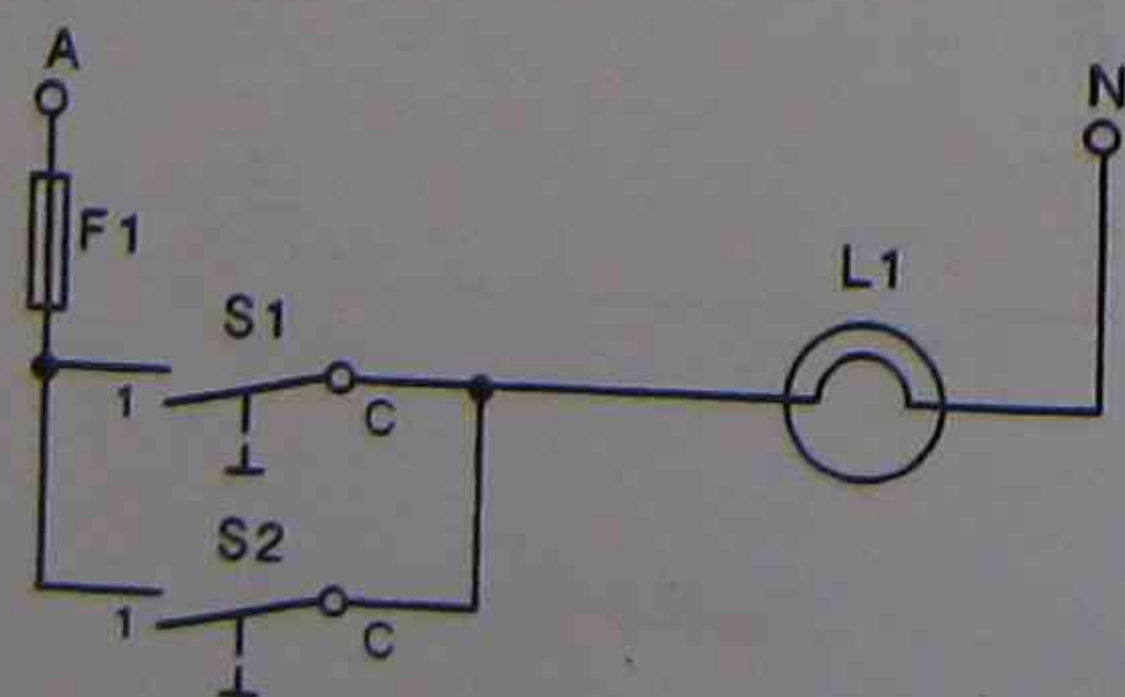
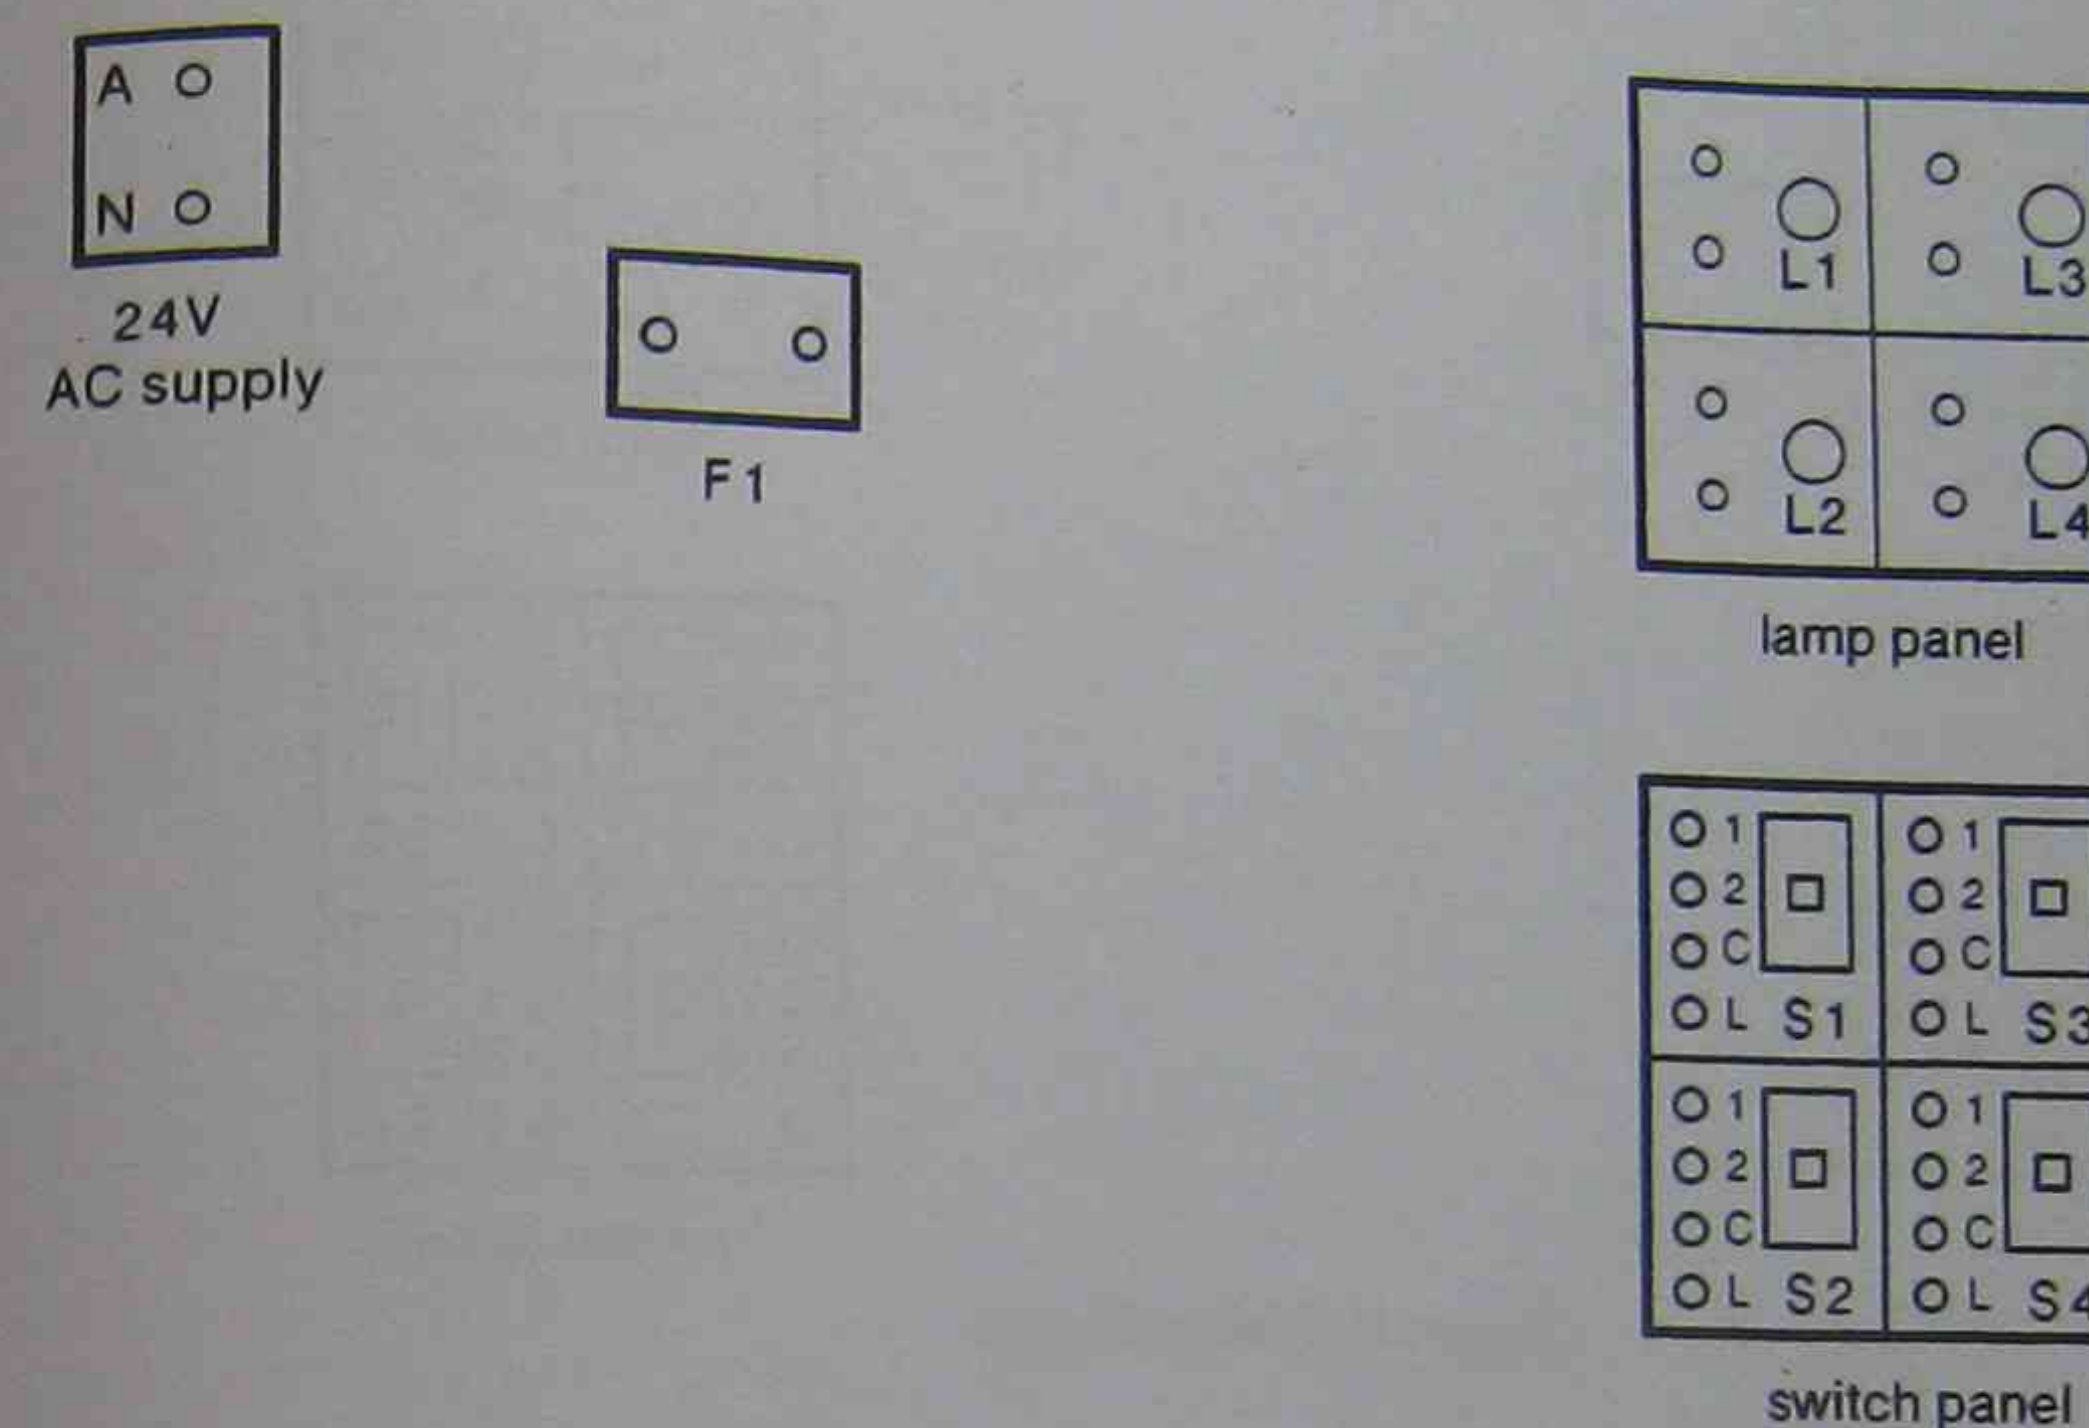

Figure10 Circuit diagram
Figure 11 Wiring diagram
6. For the circuit diagram shown in Figure 10 neatly sketch on the layout of Figure 11 the wiring diagram for the circuit.